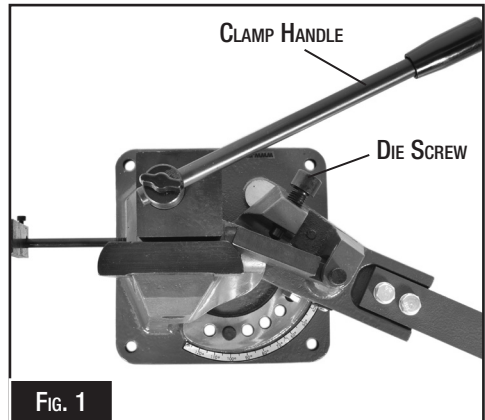

FIG. 1
2. Clamp the work piece in the bender using the clamp handle by moving the edge of the eccentric block close to the work-piece. (Fig. 1)
5. Adjust the die screw to increase or decrease the radius of the bend. (Fig. 1)